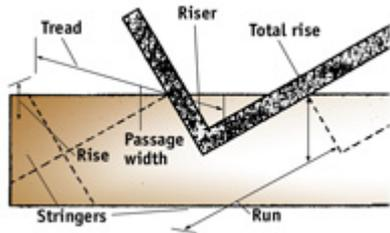

FIG. 2 - The components of a stairway, with basic stair-building terms. From the Sunset book, *Decks*, © Sunset Publishing Corporation
- **Run** (Fig. 2) is the horizontal distance from the leading edge of one tread to the leading edge of the next tread.
- **Rise** (Fig. 2) is the vertical distance from the surface of one tread to the surface of the next tread.
- **Passage Width** (Fig. 2) is the width of the stairway.
- **Stringers** (Fig. 2) are the sloped members that support the stairway. 2x10s are generally allowed for stairs with four treads or fewer, but 2x12s are sturdier.
- **Treads** (Fig. 2) are the horizontal members that you walk on. When building an outdoor stairway, they are typically cut from the same material as the upper floor deck or porch—5/4" pressure-treated pine or 2"-thick lumber.
- **Risers** (Fig. 2) are the vertical members at the back of each tread. 1" surfaced boards (3/4" net thickness) are the most common material used.